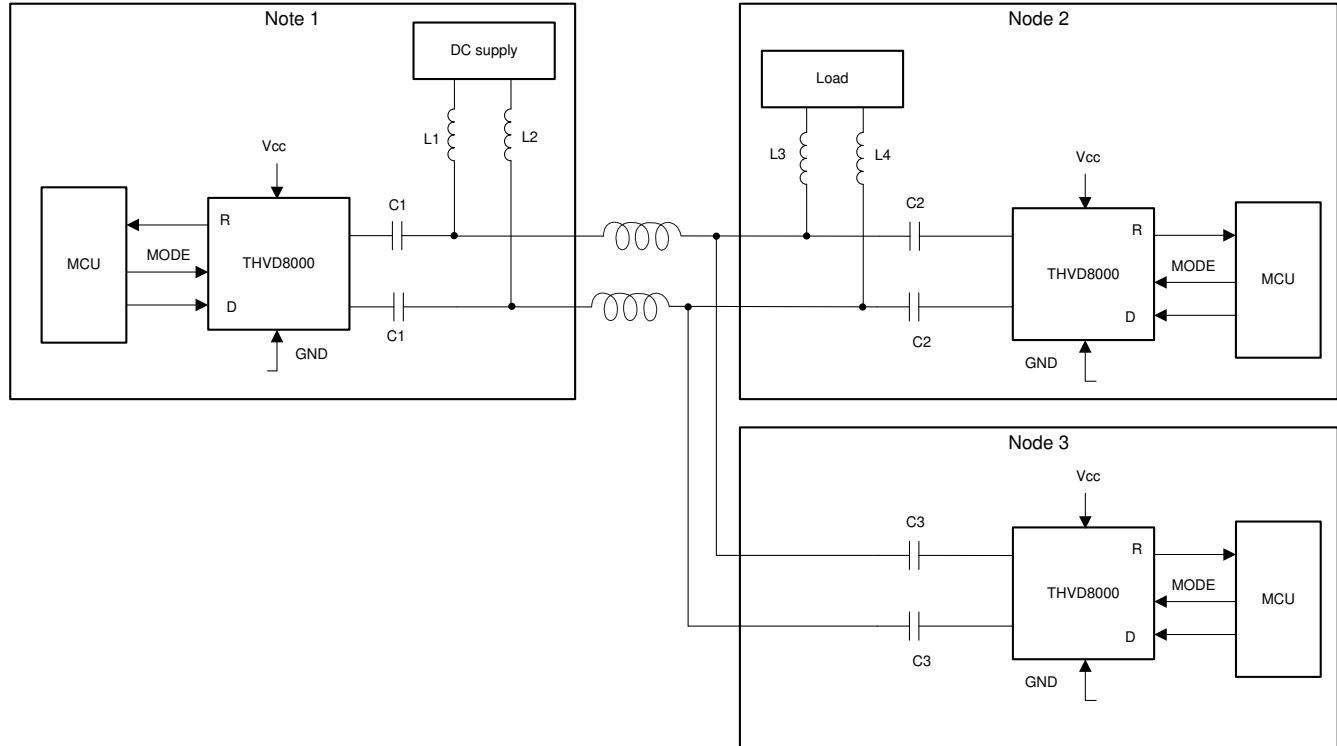

Figure 8-1. THVD8000 Multiple Nodes Setup
As previously mentioned, the THVD8000 has both similar driving strength and similar receiver sensitivity comparing to an RS-485 transceiver. To evaluate signal attenuation on the bus, include all cable loss and loading on the bus due to termination, decoupling inductances and input impedances of multiple nodes. The cable loss and inductor loading were previously discussed in this application report. The input impedance of the THVD8000 receiver is about 1/8 unit load (UL) measured in RS-485 standard. Any other external components attached to the bus like TVS diodes could have an impact with multiple nodes and at high carrier frequency. Among all the nodes, not all have to function as delivering both data and power. Some nodes can be self-powered and have data transmission only, like node 3 in Figure 8-1.